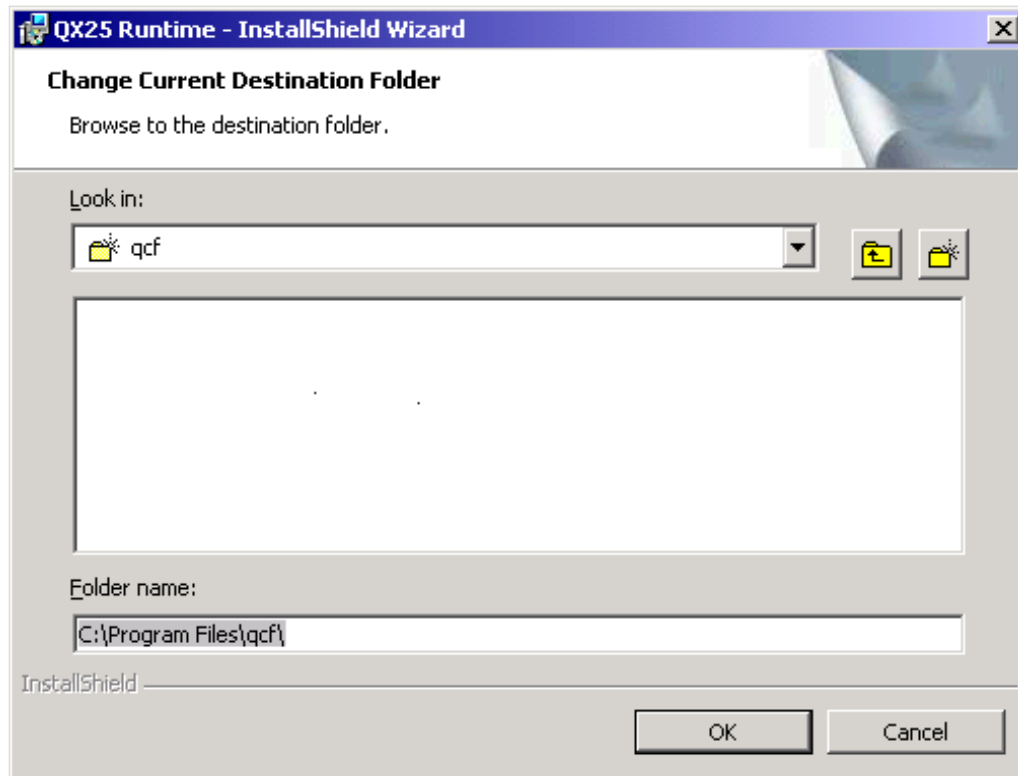

FIGURE 157. Change destination folder window
12. The following Destination Folder window appears as in Figure 157.